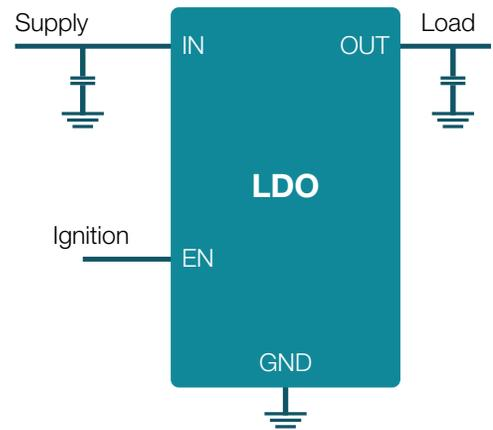

Figure 17: LDO enable application diagram.
Efficiency is a critical concern in battery-powered applications that include an automotive battery-direct-connect LDO. A system module normally reduces its power consumption to an extremely low level in nonoperation mode. The reduction comes from every aspect. Applying logic-low to the enable (EN) pin achieves LDO power savings, as shown in Figure 17. When the system needs to power up, it can wake up the LDO by applying logic-high to the EN pin.